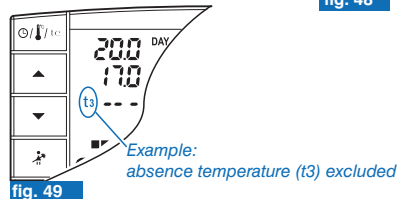

fig. 49
**If the t3 Anti-freeze/Absence temperature was deselected (see paragraph 6.5) the connected device (boiler or conditioner) will be completely disabled for 3 hours (signalled by the setting: t3 - - - see fig. 49).**